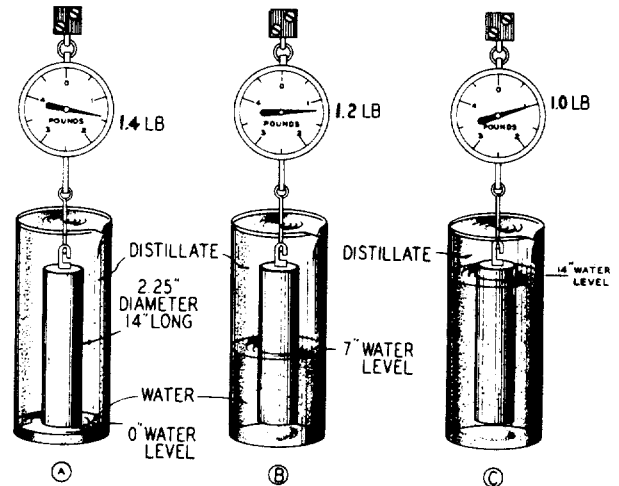

Fig. 4
This principle is illustrated in Fig. 4. A 14" range displacer is used to measure the level between distillate and water having specific gravities of 0.8 and 1 respectively. In vessel (A) the displacer weighing 3.0 lb in air is completely immersed in the distillate with the water level even with the bottom of the displacer. The net weight of the displacer (1.4 lb as shown on the spring scale) is the actual weight of the displacer less the weight of the distillate which it displaces. In vessels (B) and (C) the water level is increased first to 7" then to 14" and the net displacer weight is decreased to 1.2 lb and then 1.0 lb respectively. This reduction in weight is the result of a greater portion of the displacer being immersed in the heavier liquid, i.e. change in interface.